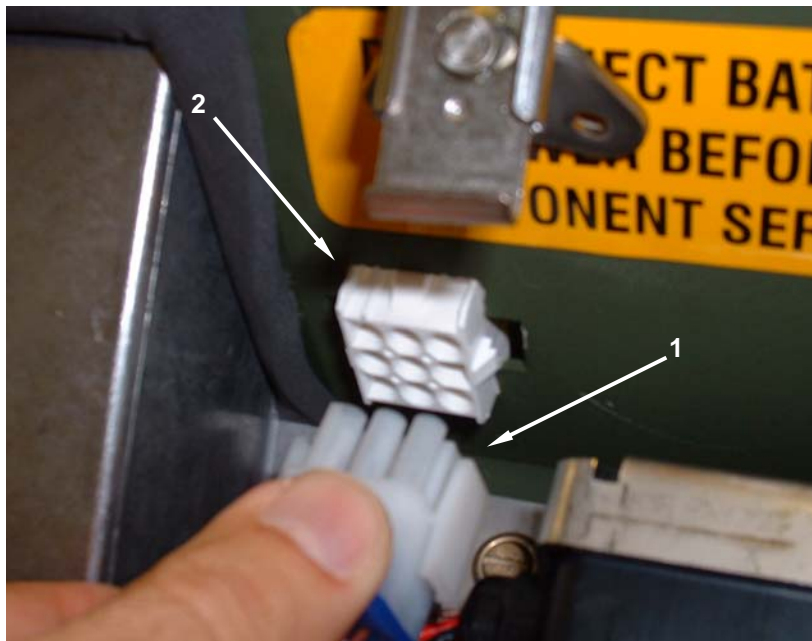

Figure 21. Connect the Battery Pack.
2. Ensure that the battery pack connector (**Figure 21, Item 1**) is connected to the lower housing assembly battery connector (**Figure 21, Item 2**).